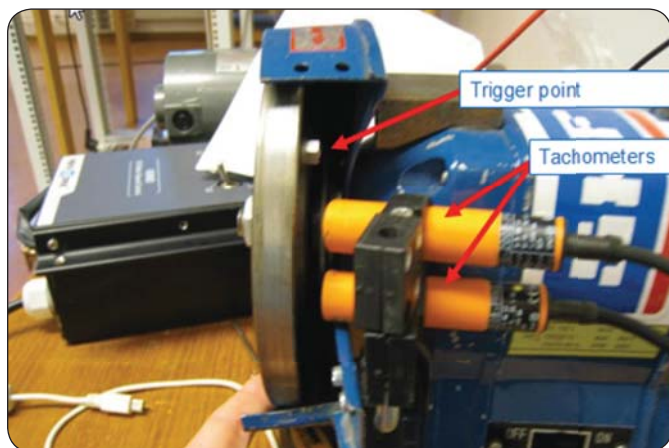

Fig. 2. Mounting of the tachometers and the trigger point.
- 1 Install two tachometers for measuring the rotational speed plus one trigger point (i.e., target) on the shaft. The two tachometers shall be relative close to each other. See the laboratory set up in **fig. 2**.